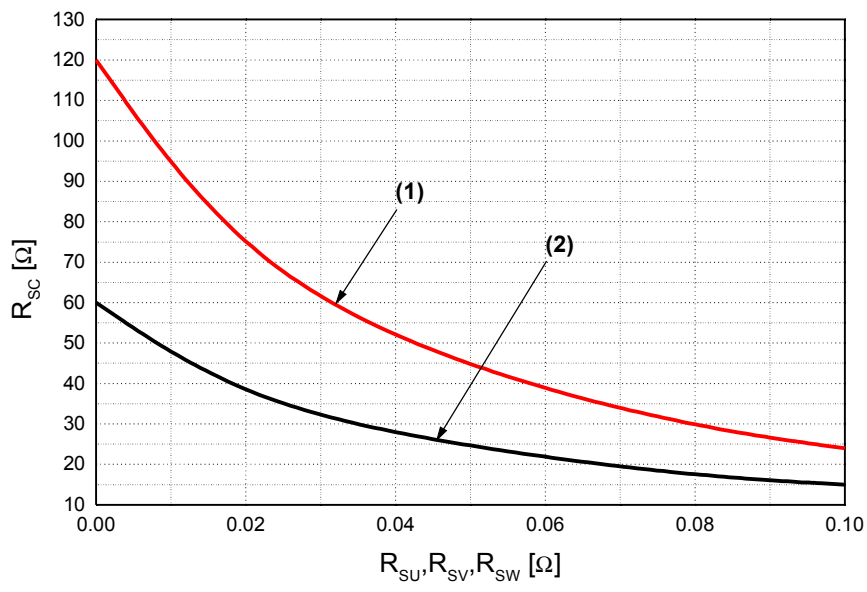

Fig. 7. R_{SC} Variation by change of Shunt Resistors (R_{SU}, R_{SV}, R_{SW}) for Short-Circuit Protection
- Short-circuit current protection is functioning only at the low-sides. It would be recommended that the value of the external sensing resistor (R_{SC}) should be selected around 60 Ω in order to make the SC trip-level of about 22.5A at the shunt resistors (R_{SU}, R_{SV}, R_{SW}) of 0Ω. For the detailed information about the relationship between the external sensing resistor (R_{SC}) and the shunt resistors (R_{SU}, R_{SV}, R_{SW}), please see Fig. 7.